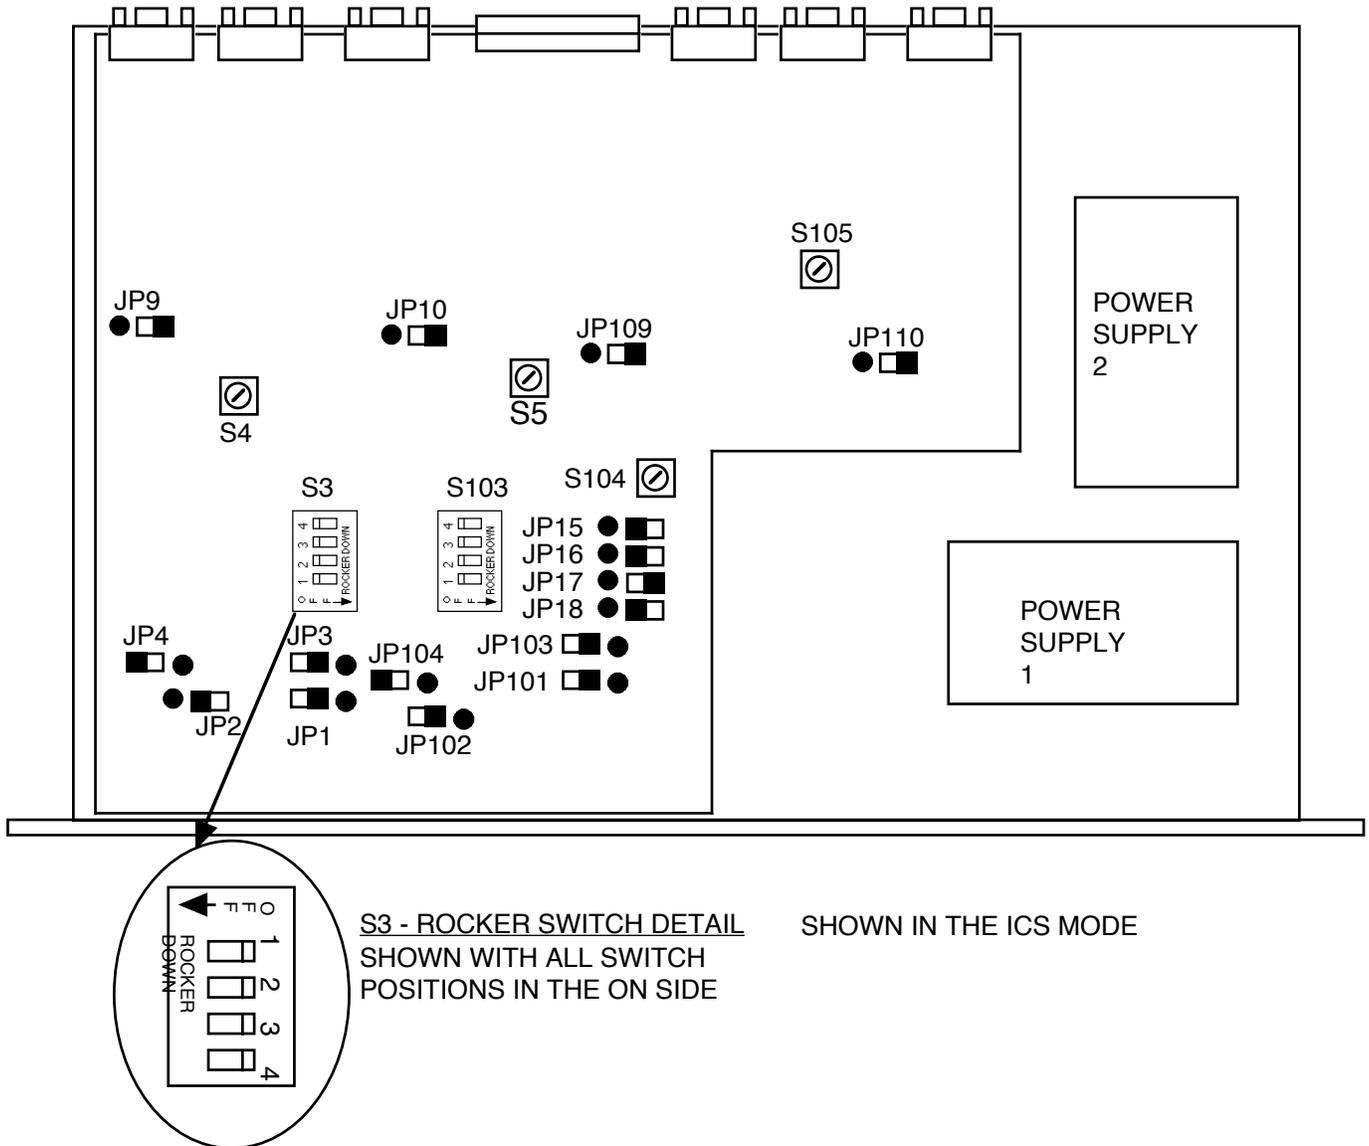

FIGURE 2.3 1582-04 PCB Settings Parts Locations
JP15, JP16, JP17, JP18 - Alarm clock frequency 3-pin jumper FACTORY SET to provide clock for the time out alarm circuitry. **DO NOT ADJUST THESE!** Figure 2.3 shows the correct positions..
Switches S4 (CH2, SWITCH A), S5 (CH1, SWITCH A), S104 (CH2, SWITCH B), and S105 (CH1, SWITCH B) determine the length of time after clock is removed before a loss of clock alarm is indicated. Use a small flat blade screwdriver or tuning tool to carefully adjust these switches to the desired length in 1 minute increments (position 1 = 1 minute, position 2 = 2 minutes, etc.). (see Figure 2.3)
The following gives the switch mode settings of the on board controls that can be changed in the field: **SWITCH A** JP1, JP2, JP3, JP4; S3; **SWITCH B** - JP101, JP102, JP103, JP104, S103 (Section 2.3, Figure 2.3). All shown with external **alarm = ground**.
- a. Set the on board controls as desired (Section 2.4, 2.6, Figure 2.3).